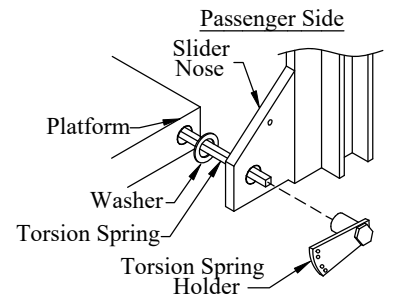

Figure 9: Torsion spring hardware.
10. Guide the torsion spring through the washer and slider nose, on the passenger side (Figure 9).
11. Install the passenger side torsion spring holder over the spring and through the slider nose, washer, and platform (Figure 9).